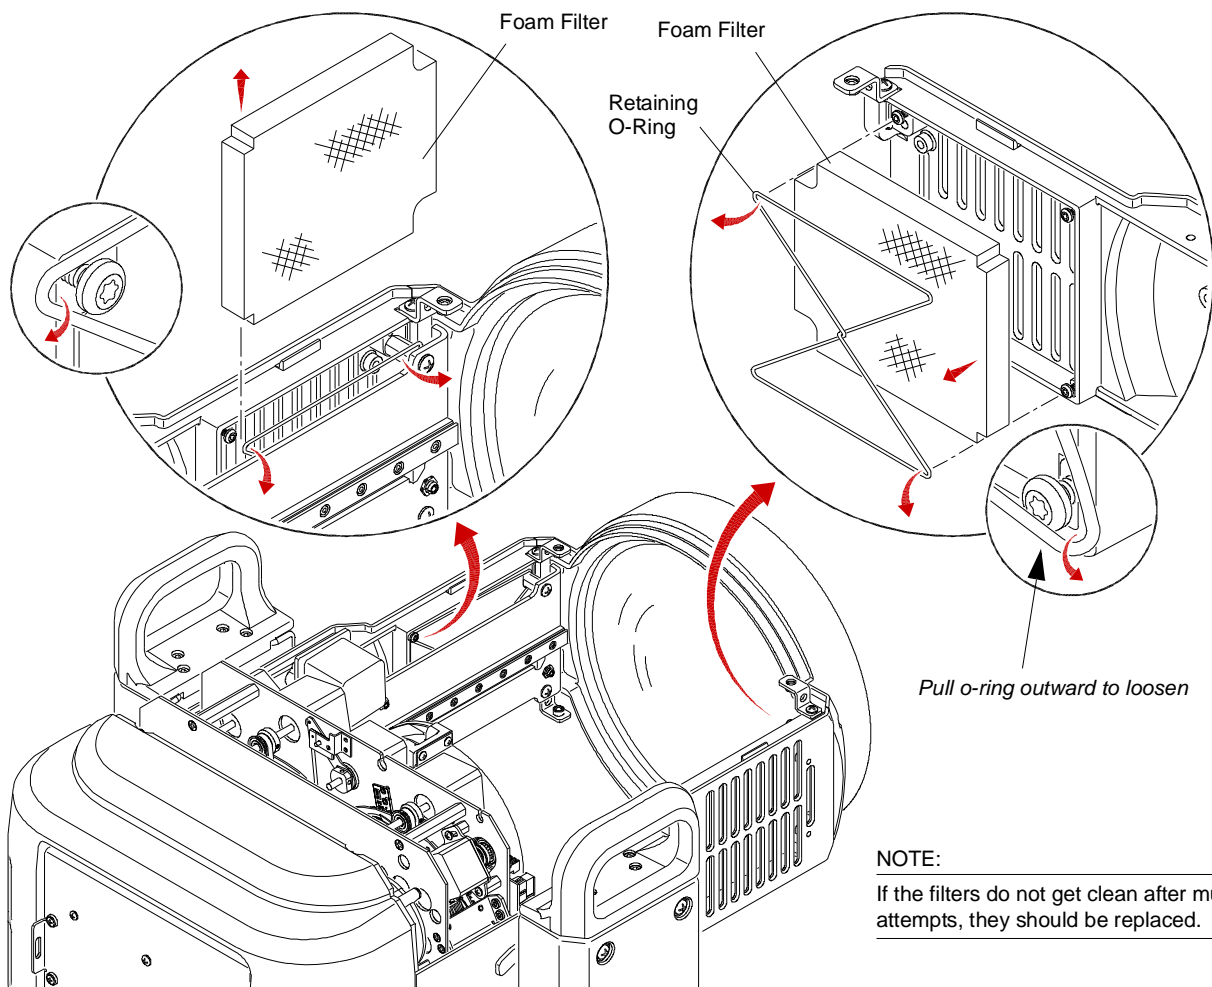

Figure 4-6: Removing Air Filters
- Step 3. At each Foam Filter, remove retaining o-ring and remove filter (**Figure 4-6**).